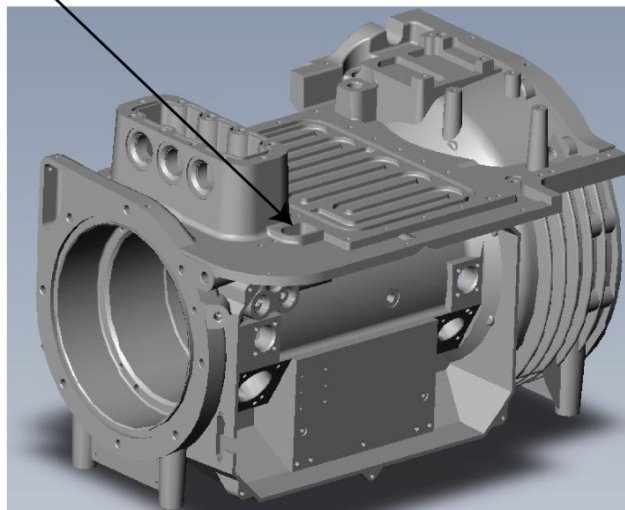

Figure 5 - Back Passage Housing
**NOTE:** There are three types of cable passages that may be found on a compressor: Back Passage, Double Passage and Front Passage. See Figures 5, 6, and 7 for an illustration of the differences.